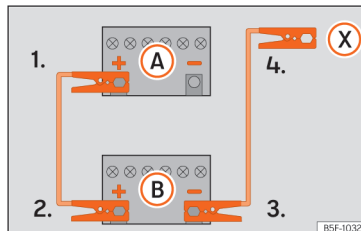

Fig.78 Diagram of connections for vehicles without Start-Stop system.
2. Connect one end of the *red* jump lead to the positive (+) terminal of the vehicle with the flat battery (A) » Fig. 78.
3. Connect the other end of the *red* jump lead to the positive terminal (+) in the vehicle providing assistance (B).
- 4a. *In vehicles without a Start-Stop system:* connect one end of the *black* jump lead to the negative terminal (-) of the vehicle providing the current (B) » Fig. 78.